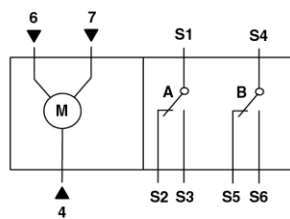

Figure 26. GDE34x Wiring Diagram
1. Connect all wires per Figure 26.